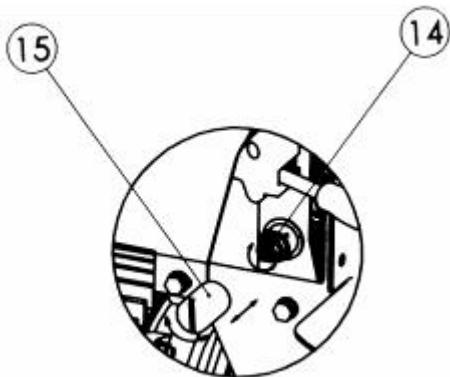

Fig. 5
LIMITING SCREW (14) IN FIG. 5!
The max pressure limiting screw is protected by a plastic cap (15) as shown in Fig. 5, and never to loose and adjust it.